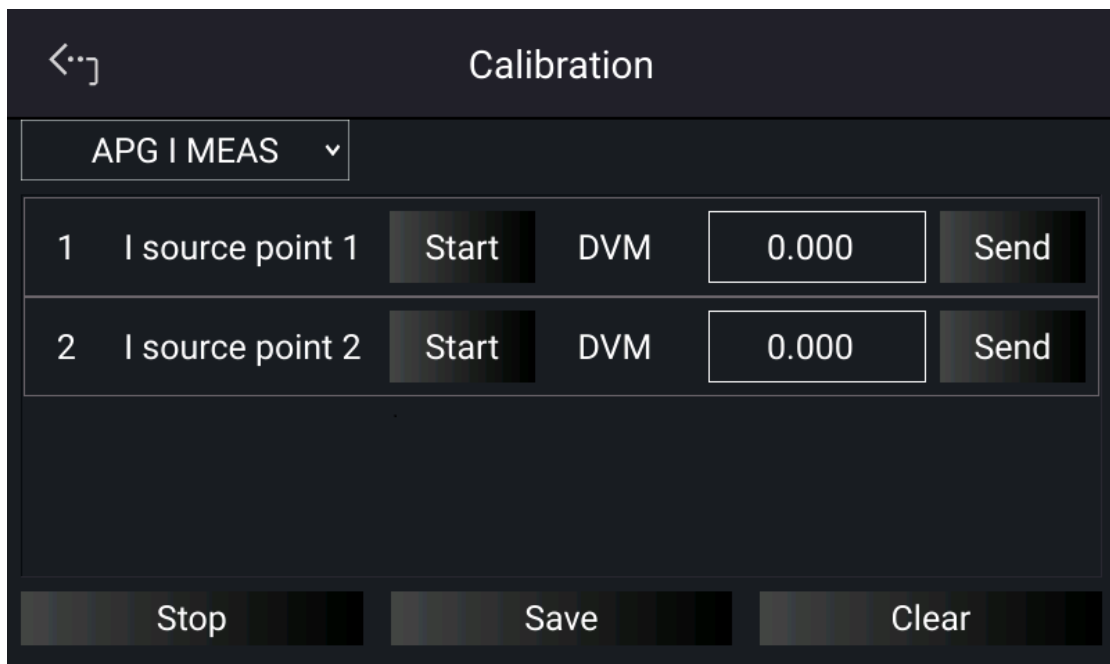

Figure 3-80
1. In Calibration page, tap “Host V” to select APG I MEAS and list the APG current calibration items as shown in Figure 3-80.